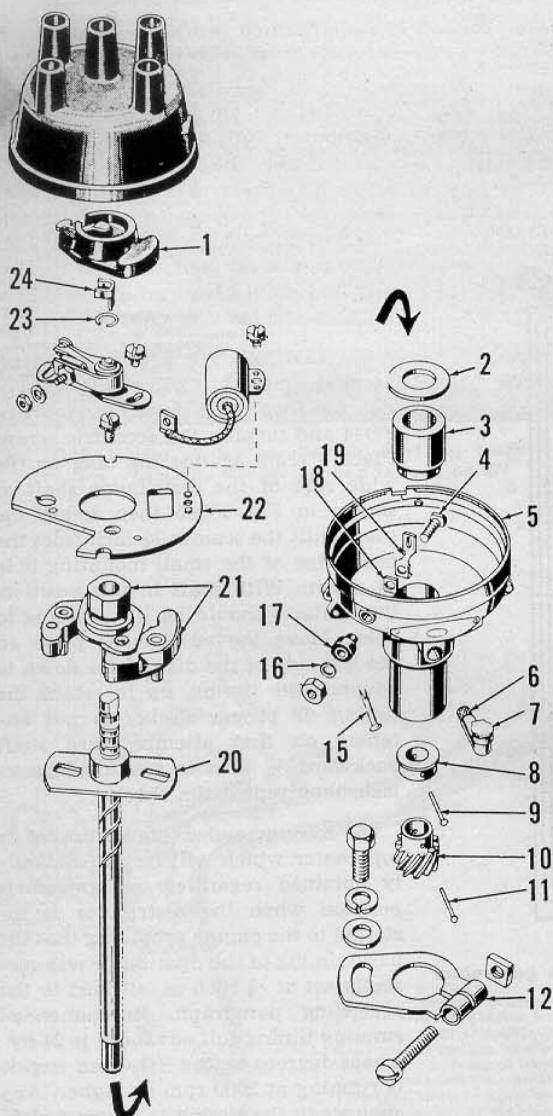

Fig. FO46—Angle-mounted distributor used on 8N tractors after serial 263843.
58. After tractor serial 263843, model 8N tractors are equipped with angle-mounted Ford distributor 8N12127A or B. Refer to Fig. FO46. The unit is driven by a replaceable gear on the front end of the camshaft and is mounted on the top of the timing gear cover. Spark timing at speeds above 400 rpm is controlled by a centrifugal governor built into the distributor. Recommended contact gap is .025. Breaker arm spring tension should be 17-20 ounces. Governor advance curve is tabulated below: